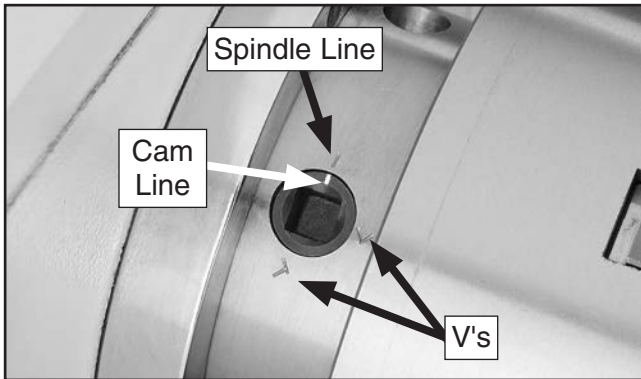

Figure 20. Indicator arrows.
3. Loosen the cam-locks by turning the key counterclockwise approximately one-third of a turn until the mark on the cam-lock aligns with the single mark on the spindle nose in **Figure 20**. If the cam-lock stud does not freely release from the cam-lock, wiggle the cam-lock until the cam-lock stud releases.